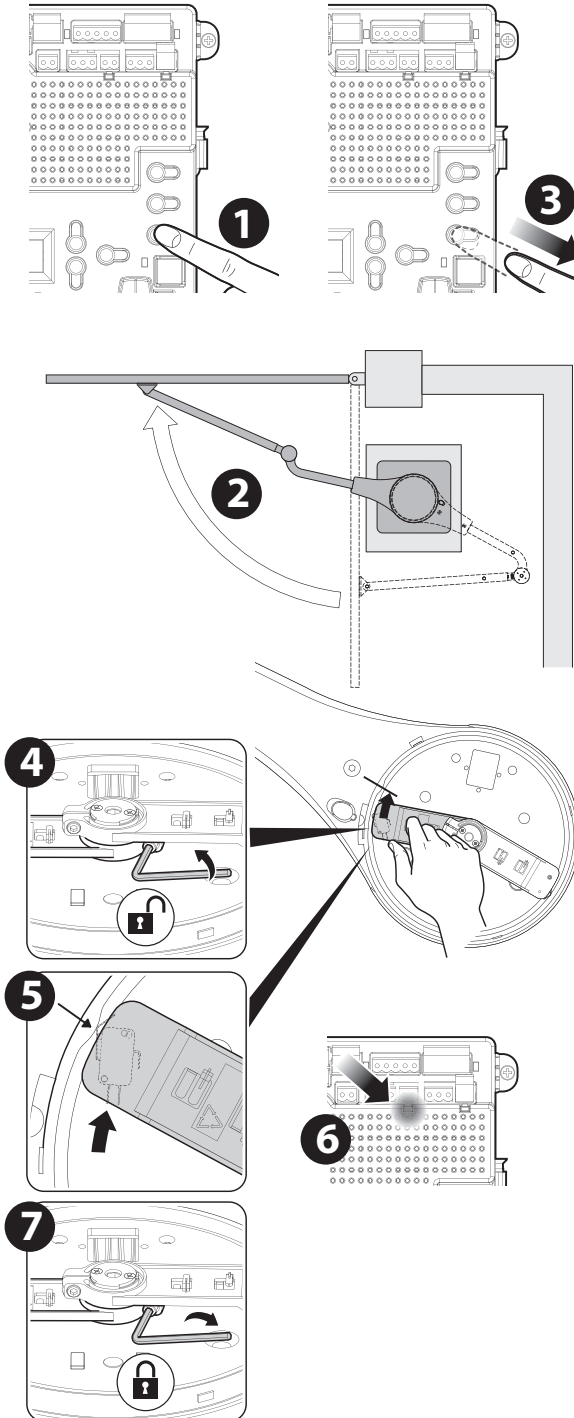

Figure 12 -Open Learning
5. Using the OPEN button on the front of the Control board, hold the OPEN button down until the gate reaches the fully open position or where the installer wants the gate to stop as FULLY OPEN (see Figure 12 steps 1-2-3). If the gate moves the wrong direction, refer to Section 16.0 to reverse the direction.
6. Once the gate is in the position where the gate is intended to be "FULLY OPEN" the OPEN limit switch must be adjusted to inform the circuit board that the gate is in the correct position to STOP at that position in the future. Use an ALLEN WRENCH to loose the set screw that keeps the OPEN limit switch arm in place and adjust it until the GREEN light illuminates on the front of the control board (Figure 12, Steps 4-5-6). When done, to hold the limit switch firmly in place tight the set screw (Figure 12, Step 7).